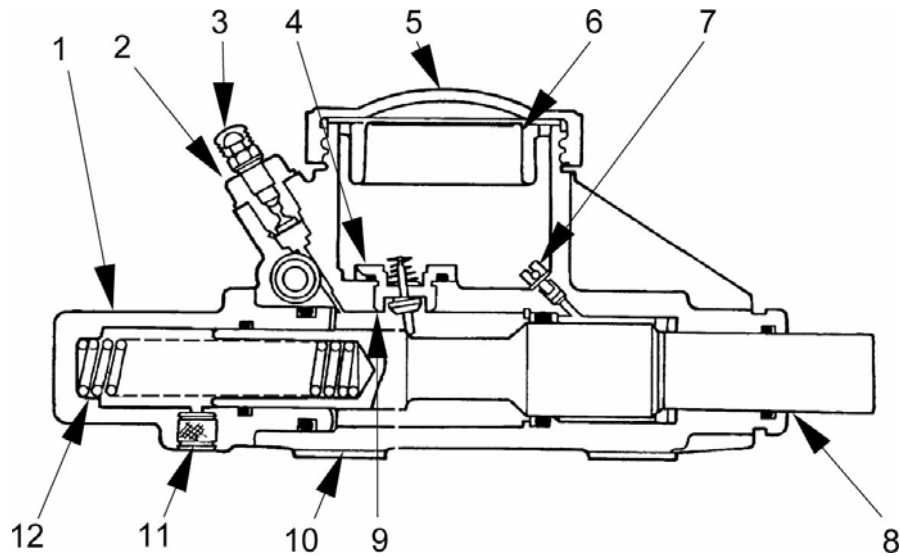
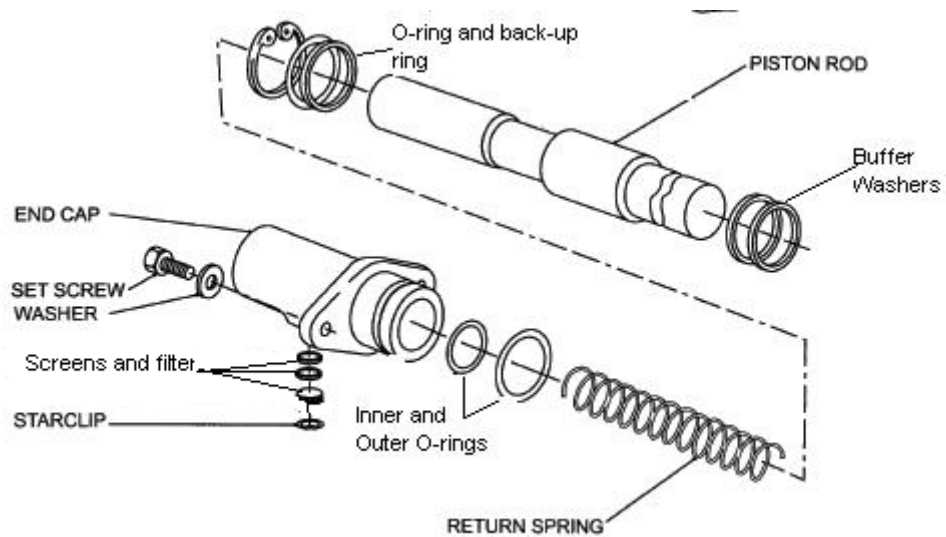

Figure 5 Brake Master Cylinder – Sectional View
Figure 6 Master Cylinder Exploded View
33. Disassembly. Disassemble the master cylinder as follows (Figure 5 and Figure 6).
- a. Remove the weather cap, reservoir cap (Figure 5, Item 5) and moisture seal (Figure 5, Item 6). Discard any residual brake fluid.
- e. Remove the bleed nipple (Figure 5, Item 3) and housing (Figure 5, Item 2) from the body.
- f. Remove the compensating valve nut (Figure 5, Item 4) with compensating valve (Figure 5, Item 9) from the base of the reservoir.
- g. Remove the equalising valve (Figure 5, Item 7) from the base of the reservoir.
- h. Remove the two bolts with spring washers securing the end-cap (Figure 5, Item 1) to the housing. Then remove the end-cap and the piston return spring (Figure 5, Item 12).
- j. Slide the piston (Figure 5, Item 8) out of the body.
Table 1 Annotation to Figure 5
- 35. Reassembly.** Reassemble the master cylinder as follows (Figure 5 and Figure 6):
- Install the buffer and washer, the back-up ring, the new O-ring and the circlip into the piston body (refer to Figure 6 for assembly).
- Slide the piston (Figure 5, Item 8), with the open end facing backwards, into the body from the rear.
- Install the inner and outer O-rings on the end-cap (Figure 5, Item 1).
- Fit the piston return spring (Figure 5, Item 12) and end-cap. Secure the end-cap to the housing with the two bolts fitted with spring washers. Torque the bolts to 34 N.m.
- Install the equalising valve (Figure 5, Item 7) in the base of the reservoir. Torque the valve nut to 3 N.m.
- Install the compensating valve (Figure 5, Item 9) and compensating valve nut (Figure 5, Item 4) into the base of the reservoir. Torque the valve nut to 82 – 95 N.m.
- Top up the cylinder reservoir and install the moisture seal (Figure 5, Item 6), reservoir cap (Figure 5, Item 5) and weather cap. Seal the cylinder outlet port with a plastic plug.